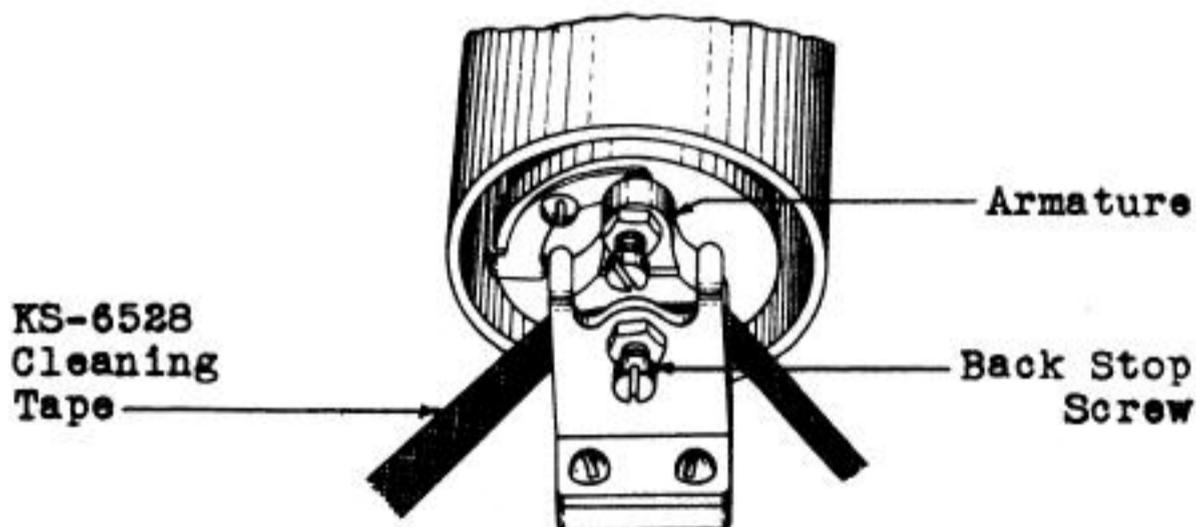

Fig. 37 - Method of Cleaning Front and Back Stop Screws on 89, 101, 105, 108, 118 and 172 Type Relays
6.17 To clean the front or back stop screw fold the tape lengthwise and pass it between the front stop screw and the front stop or between the back stop screw and the armature as shown in Fig. 37. When cleaning the front stop, hold the armature in the operated position while drawing the tape through.